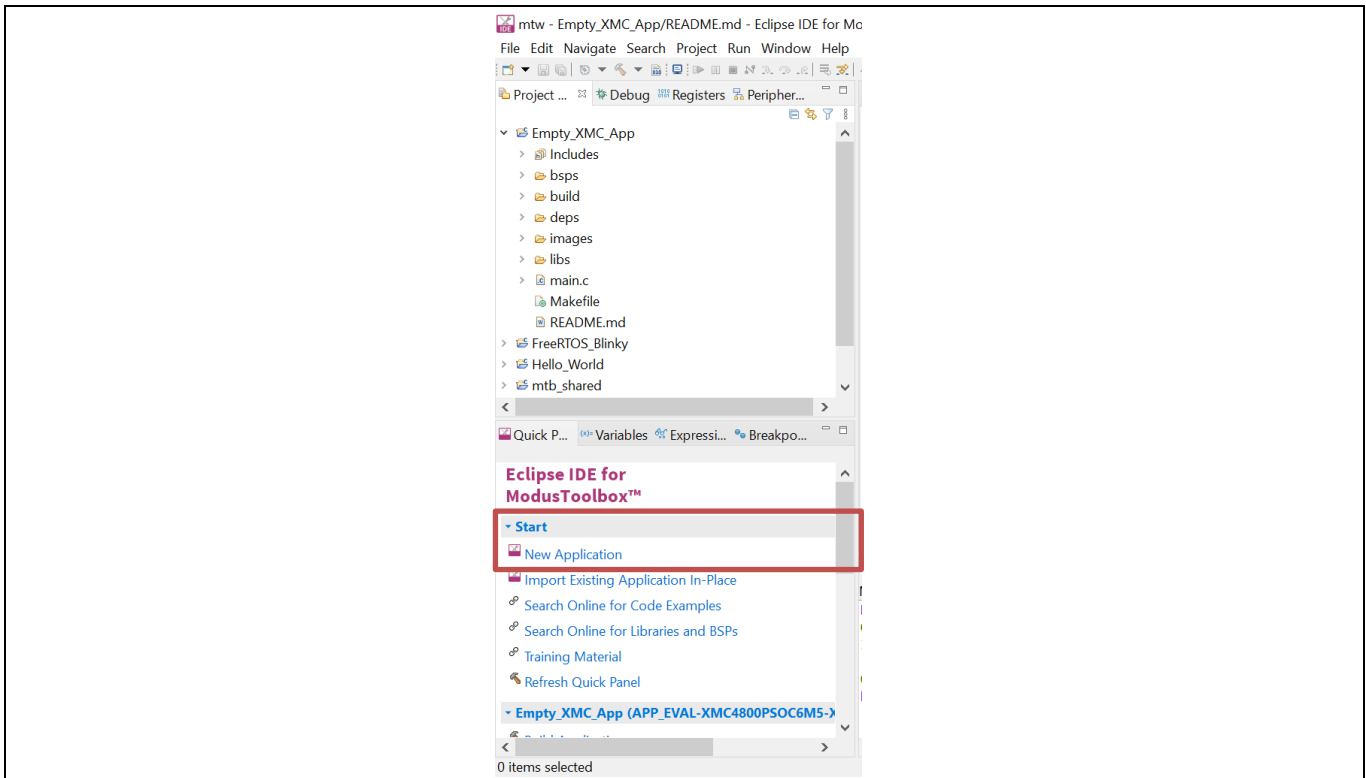

Figure 5 New application
2. Open project creator by either selecting **File** → **New** → **ModusToolbox™** or **Start** → **New Application** (see Figure 5).